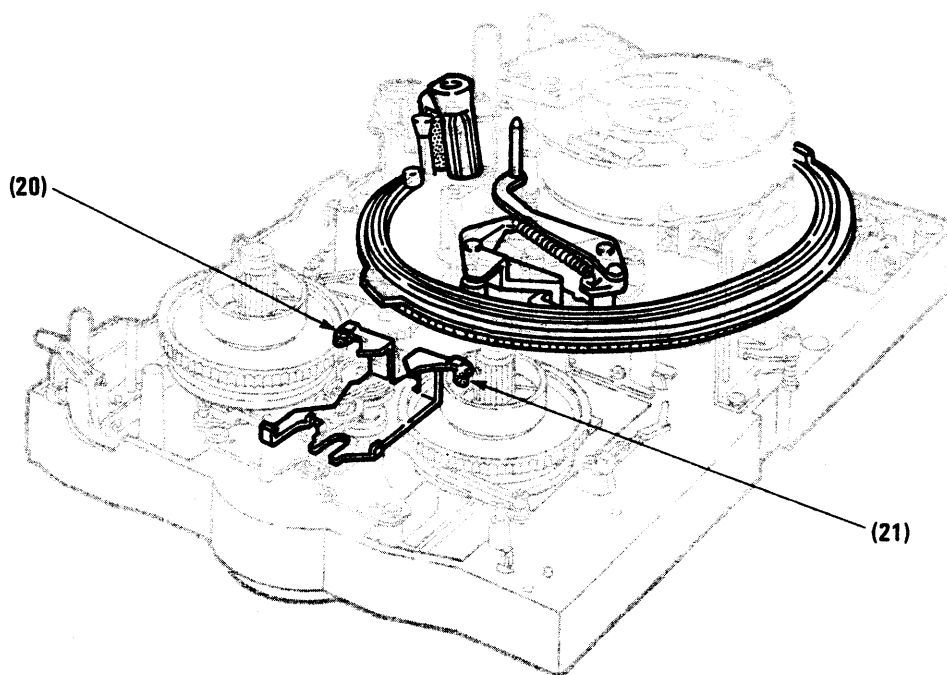
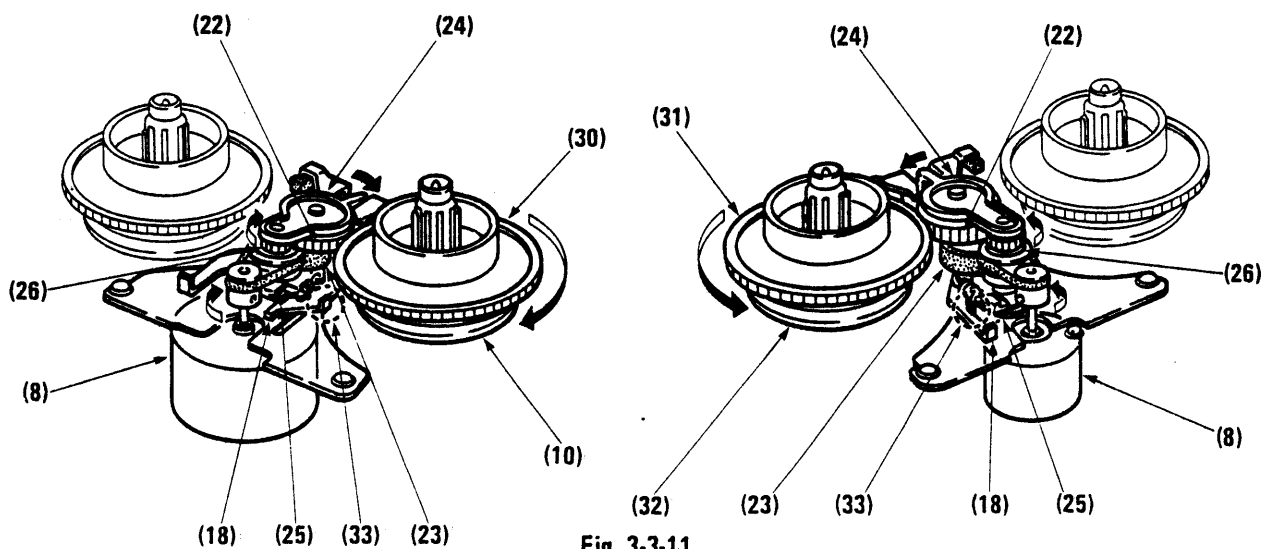

Fig. 3-3-10
Fig. 3-3-11
[Operation] (See Figs. 3-3-10 ~ 3-3-13.)
Fig. 3-3-10 shows the condition at the completion of loading. In this condition, both the supply reel brake (2) and the take-up reel brake (21) are disengaged. If, at this time, the reel motor (8) rotates in the clockwise direction as shown in Fig. 3-3-11, the center gear (26) will rotate in the clockwise direction. This rotation force will then cause the play lever (24) to swing in the direction indicated by the arrow, and the play gear (22) will mesh with the take-up reel gear (30). In